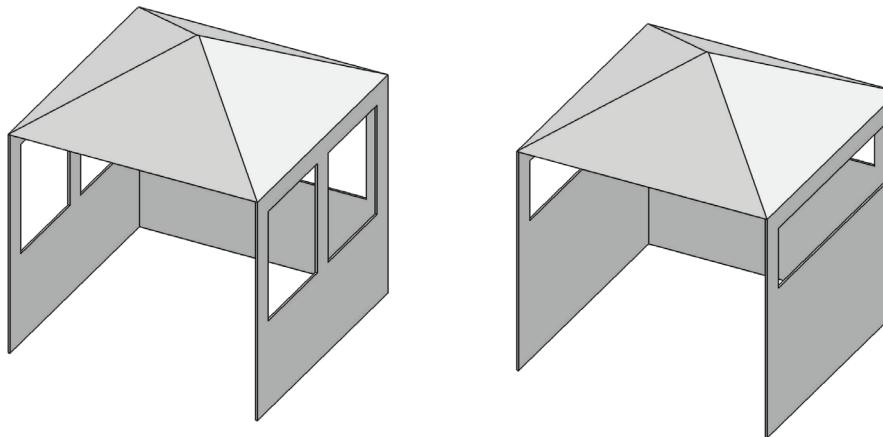

FIG. 3
Within a partial enclosure which includes an overhead cover and three sidewalls, as long as 30 percent or more of the horizontal periphery of the enclosure is permanently open (FIG.3).
- Secure the 3 nuts (Type 1) and the 3 washers (Type 3) to the back of the bolts (FIG. 3).